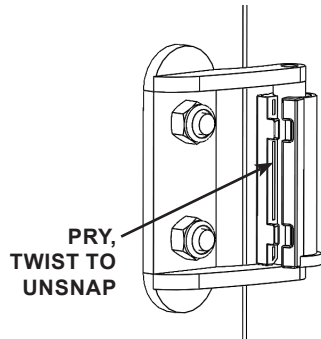

FIGURE 3.17 - Hinge Bushing
**STEP 1:** Use a flathead screwdriver to pry, separate the two hinge bushing halves. See FIGURE 3.17 & 3.18